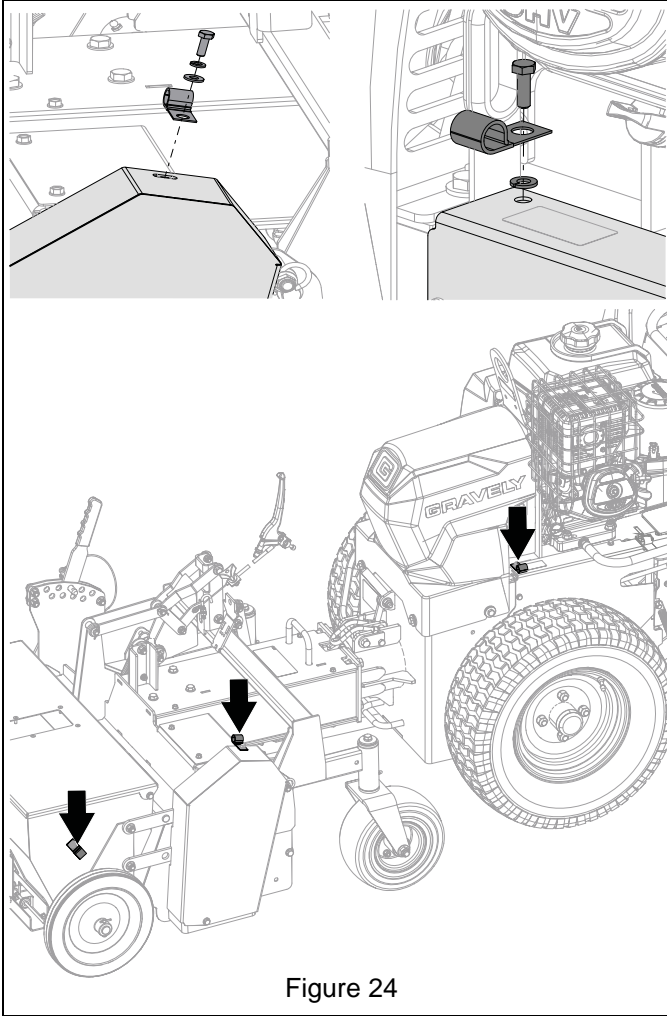

Figure 24
14. Route cable through clips. Secure p-clip to belt shield with hardware removed earlier and secure p-clip (item 4) to side shield. See Figure 24.